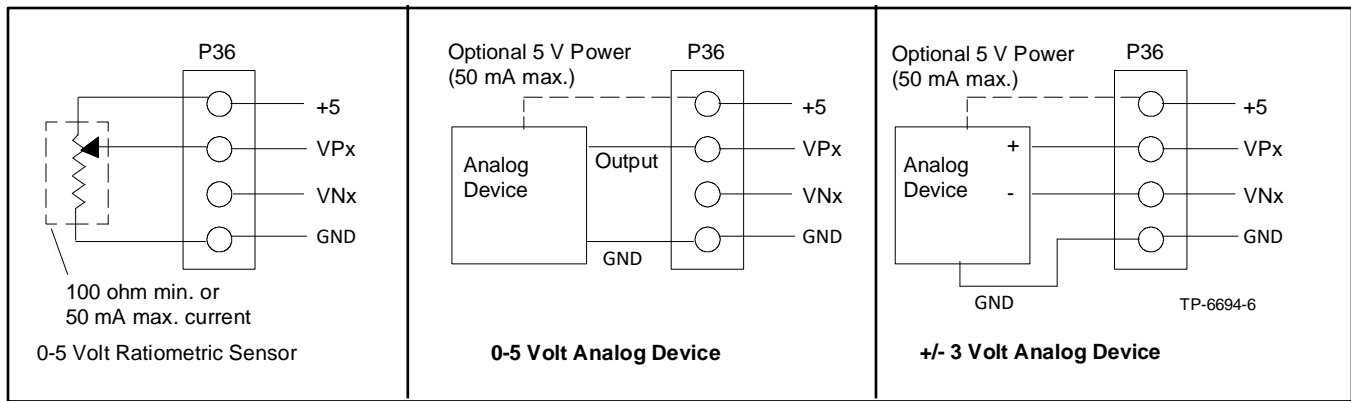

Figure 119 Input/output Module Analog Input Connections, P36
5. See Figure 119 for connections of analog inputs.
6. Select the normally open (NO) contacts of the relay, Form A dry contact, depending upon the application. Use a two-wire harness for the NO connections.